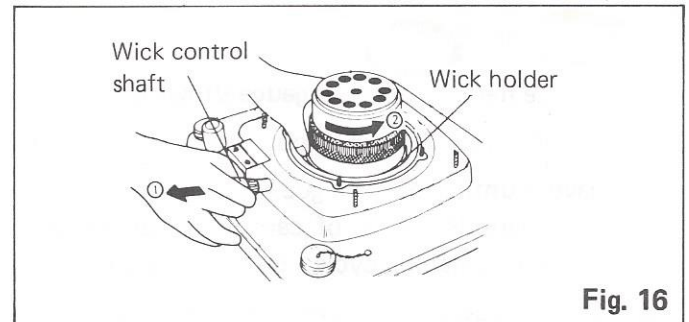

Fig. 16
7. While pulling out and holding the wick control shaft, turn the wick holder counterclockwise and lift it free from the fuel tank. (Fig. 16)